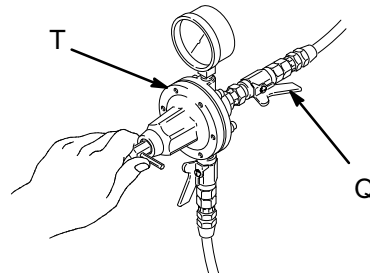

Fig. 13
- B. Open the adhesive fluid shut-off valve (Q). Adjust the fluid flow with the fluid regulator (T) installed in the gun fluid line (see Fig. 13) or the air regulator on the adhesive tank (see Fig. 1). Typical industrial flow rates will vary with regulator pressures from 5 to 20 psi (0.35 to 1.4 bar).